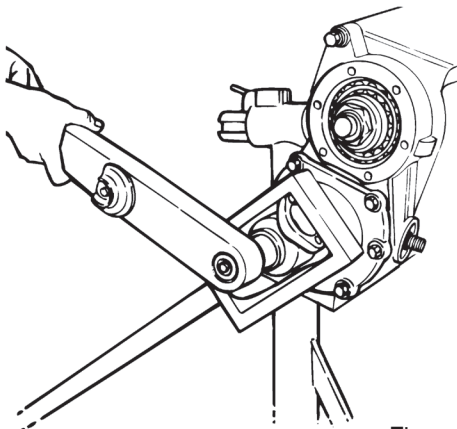

Figure 3.20
4. Use the correct tool to hold the fork or flange of the input shaft. Loosen, but do not remove, the nut that fastens the yoke or flange to the input shaft. Figure 3.20.